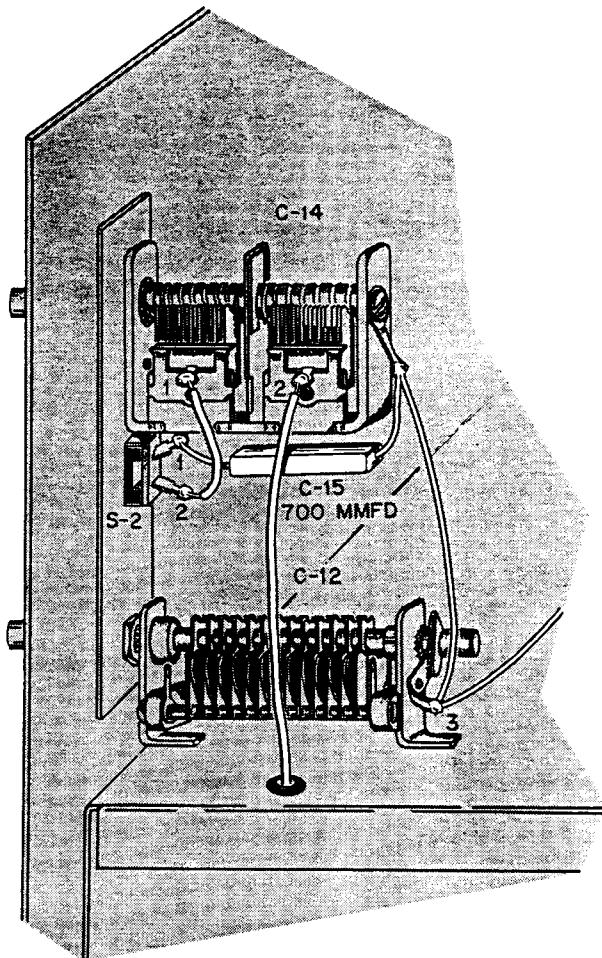

FIGURE 11. HOW TO WIRE C-15
- As shown in Figure 11, (see next page) solder one lead of C-15, a 700 MMFD mica capacitor, to terminal 1 of S-2. Solder the other lead of C-15 to the solder lug on the back of C-14.
- As shown in Figure 11, solder one end of a red wire to terminal 2 of S-2. Solder the other end of this wire to terminal 1 on C-14.